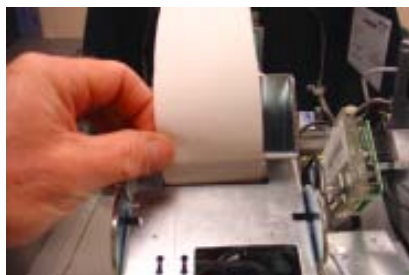

Figure 6-4. Paper/spool in bracket. Figure 6-5. Feed paper in take-up slot.
- Insert the spool into the new paper roll. Place the paper roll and spool on the paper bracket by sliding the small slotted end of the spool into the U-shaped slot of the paper bracket. When installed, the paper will feed from the **TOP** of the roll (Figure 6-4).